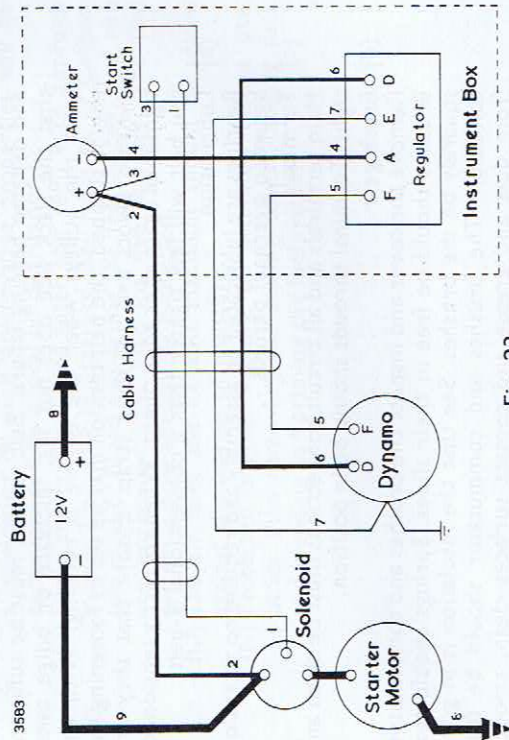

Fig. 23
72. Electric starting equipment (Fig. 23)